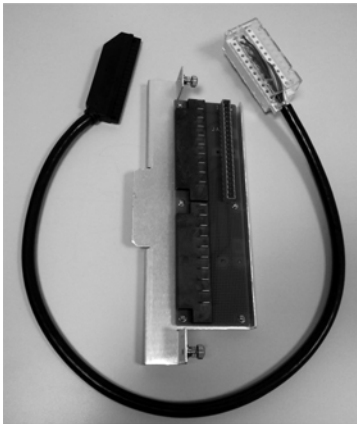

Figure 2
- Direct connection adapter: a factory pre-wired assembly (Figure 2)